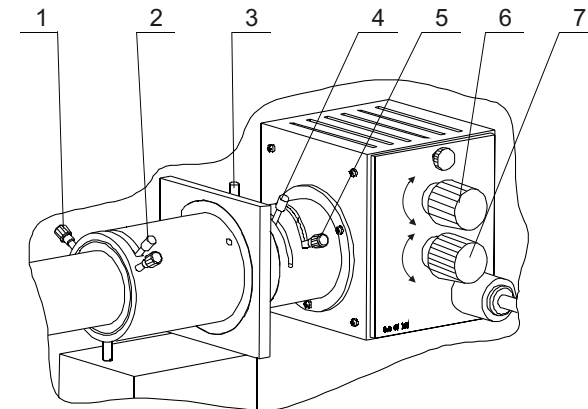
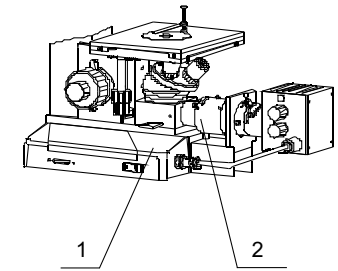

Figure 6
Figure 8
5. Illumination Alignment, See Figure 6.
Turn the Analyzer and Polarizer to the light way (Figure 8), so that the analyzer used for transmitted light work., rotate the polarizer (Figure 6) while watching the brightness in the field and let the polarizer and analyzer orthogonally.